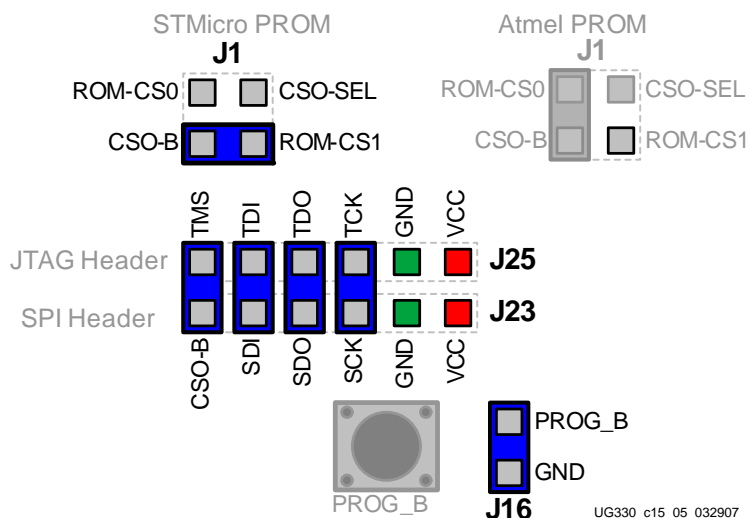

Figure 12-4: Jumper Settings for Direct SPI Flash Programming
3. Locate the J1, J23, and J25 jumpers in the upper right corner of the board, using Figure 12-1 as a guide. Figure 12-4 also provides a reference diagram.
4. Insert a jumper in jumper block J1, as shown in Figure 12-4. The figure shows the setting to program the STMicro M25P16 PROM. Alternatively, set the jumper to program the Atmel AT45DB161D DataFlash PROM.
5. Insert four jumpers between jumper blocks J25 and J23, as shown in Figure 12-4. These jumpers connect the embedded USB JTAG programmer on the J25 jumper pins to the SPI PROM via the J23 jumper pins.
8. For direct programming, the FPGA's PROG\_B pin must be held Low. Insert a jumper in jumper J16, as shown in Figure 12-4. This holds all the FPGA's I/O in three-state to allow the JTAG programmer full access to the SPI PROM pins.
2. Insert a jumper in jumper block J1, as shown in Figure 12-4. The figure shows the setting to program the STMicro M25P16 PROM. Alternatively, set the jumper to program the Atmel AT45DB161D DataFlash PROM.